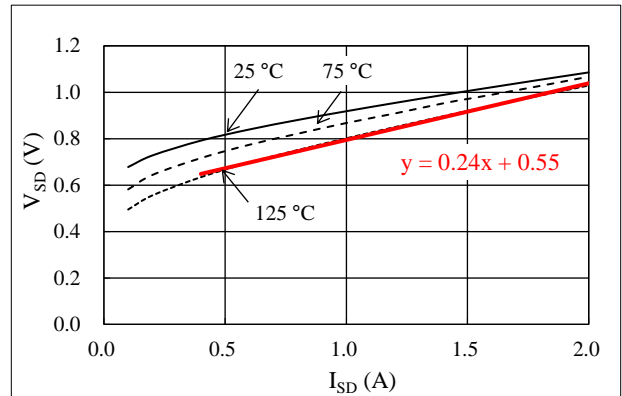

Figure 14-3. Linear Approximate Equation of V_{SD} vs. I_{SD}
Steady-state loss in the body diode of a power MOSFET can be computed by using the V_{SD} vs. I_{SD} curves, listed in Section 15.3.1. As expressed by the curves in Figure 14-3, a linear approximation at a range the I_{SD} is actually used is obtained by: $V_{SD} = \alpha \times I_{SD} + \beta$. The values gained by the above calculation are then applied as parameters in Equation (9), below. Hence, the equation to obtain the body diode steady-state loss, P_{SD} , is: